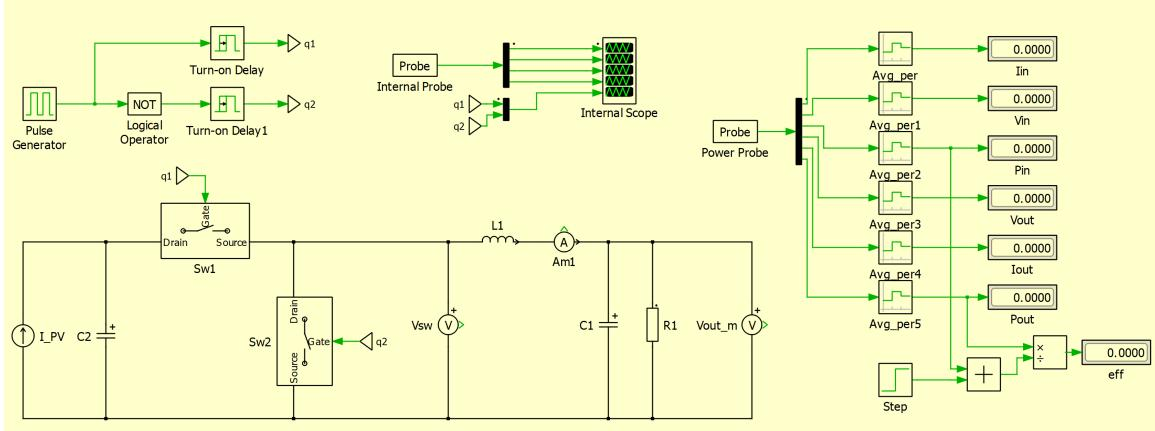

Figure 4: Buck Converter PLECS schematic.
3. Construct a model (Fig. 4) for a synchronous buck converter in PLECS.